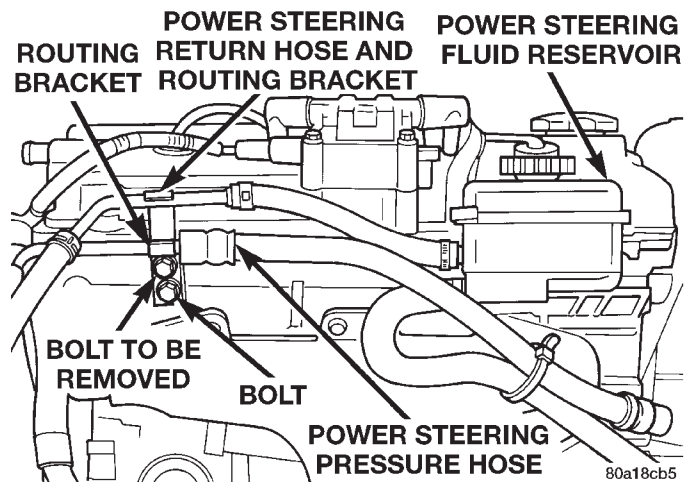

Fig. 20 2.4 Liter Power Steering Hose Routing
(6) If vehicle is equipped with a 2.4 liter engine, remove power steering pressure hose routing bracket from the power steering return hose routing bracket on rear of engine (Fig. 20). Then remove the bolt (Fig. 20) attaching the power steering pressure hose routing bracket to the cylinder head.
(6) Correctly route power steering return hose up to the power steering fluid reservoir, avoiding tight bends or kinking of the hose.
(7) **If vehicle is equipped with a 2.4 liter engine,** install power steering return hose routing bracket on rear of cylinder head (Fig. 20) and securely tighten bolt. Then install the power steering pressure hose routing bracket on the return hose routing bracket (Fig. 20) and securely tighten attaching bolt.